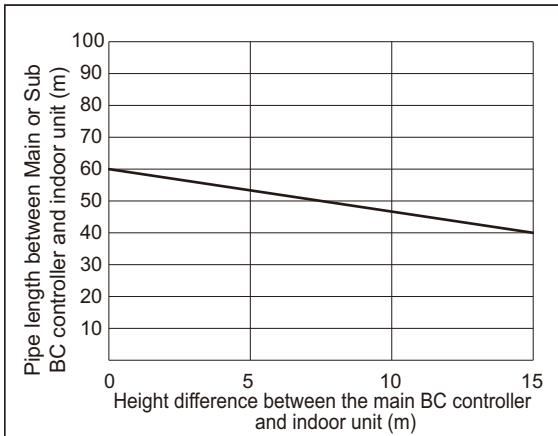

Fig. 2
*2. Details refer to Fig. 2.
*7. When the piping length or the vertical separation exceeds the limit specified in Fig. 2, connect a sub BC to the system.
When using indoor models P/M140 or larger, the restrictions shown in Fig. 2 cannot be exceeded.